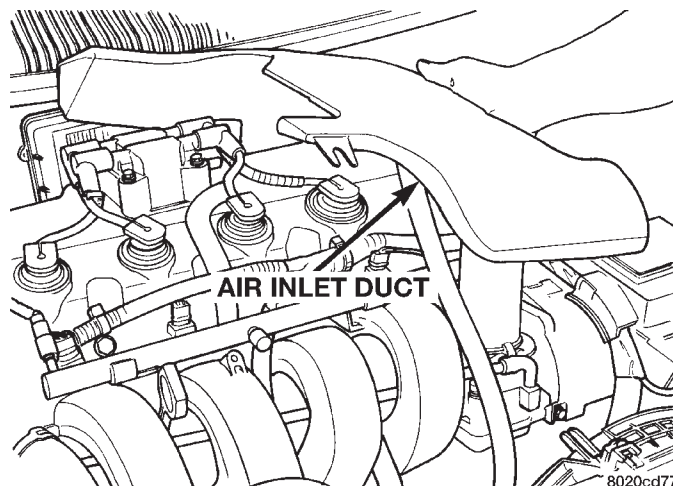

Fig. 22 Inlet Duct Removal
- (1) Remove air cleaner inlet duct (Fig. 22)